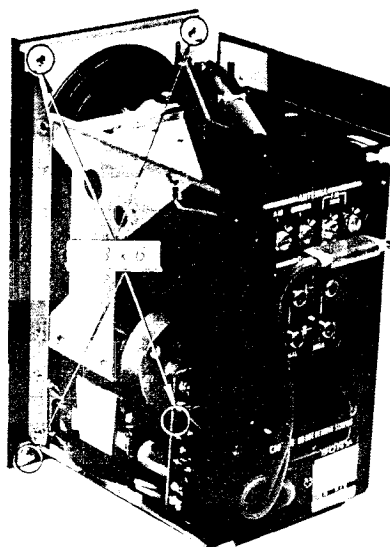

Fig. 2-2. Front panel removal (1)
3. Remove the four screws securing the front panel to the chassis as shown in Fig. 2-2.